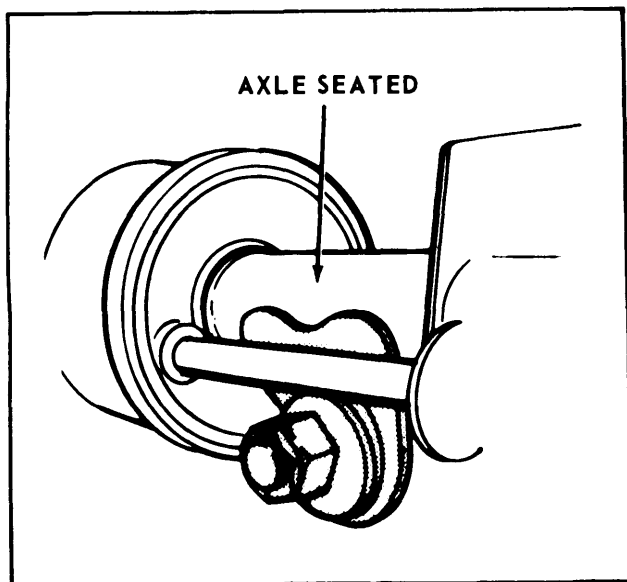
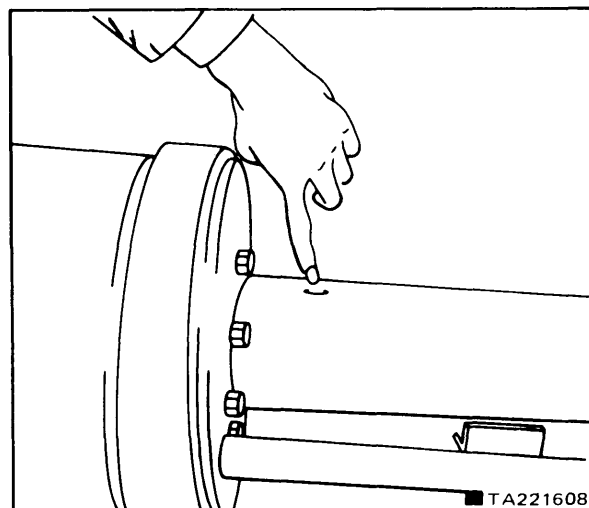

FIGURE 10-10. AXLE SEATED IN CAST BUSHING RETAINER.
FIGURE 10-11. AXLE CAMBER MARK.
- Install new cast retainer brackets on the ends of the walking beams with an axle seated, but not welded, in the saddle of the brackets (see figure 10-10). The camber marks should be located on top of the axle during this procedure. See figure 10-11 for camber mark location.